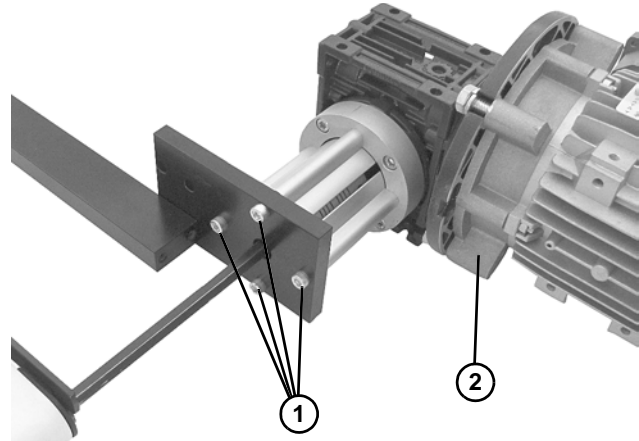

Figure 15
2. Remove four (4) screws (**Figure 15, item 1**) and remove gear motor assembly (**Figure 15, item 2**).